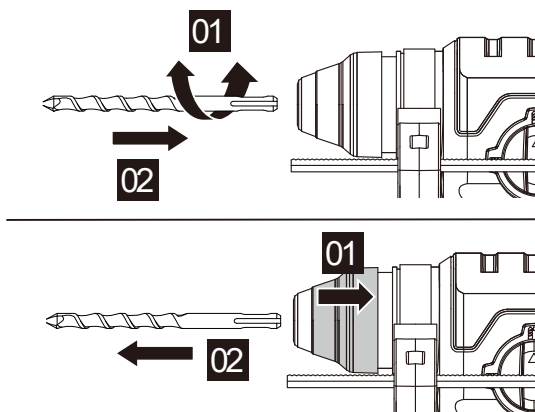

Figure 3
3. INSERTING AND REMOVING SDS DRILL BIT (NOT SUPPLIED) (SEE FIG. 3)